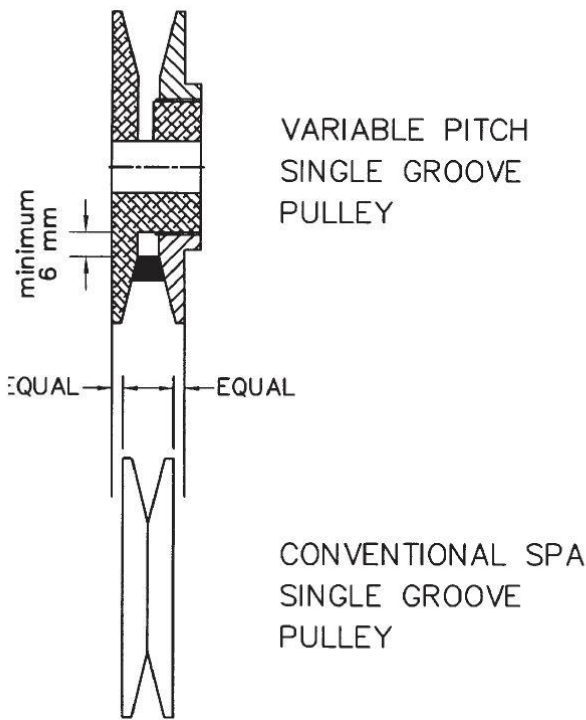

FIG. 2
6. Re-align the belts using the pulley faces as a guide, refer note and figure 2 below in troubleshooting guide
Be careful not to slow the fan down too much. Rotating the moveable flange anti-clockwise too far will “bottom” the belt and it will not sit properly in the groove. This will cause rough running and early belt failure. Also the moveable flange will only be held on by a thread or two. A minimum clearance of 6 mm is required between the bottom of the cog belt and the bottom of the pulley groove. See figures 2 and 3.
Single and Double groove pulleys should be aligned using the outside faces, noting that the variable pitch pulley faces will most likely be wider than the standard fixed pulley, allowance should be made for this so that the belt/belts, is/are centralised. See figures 2 and 3.